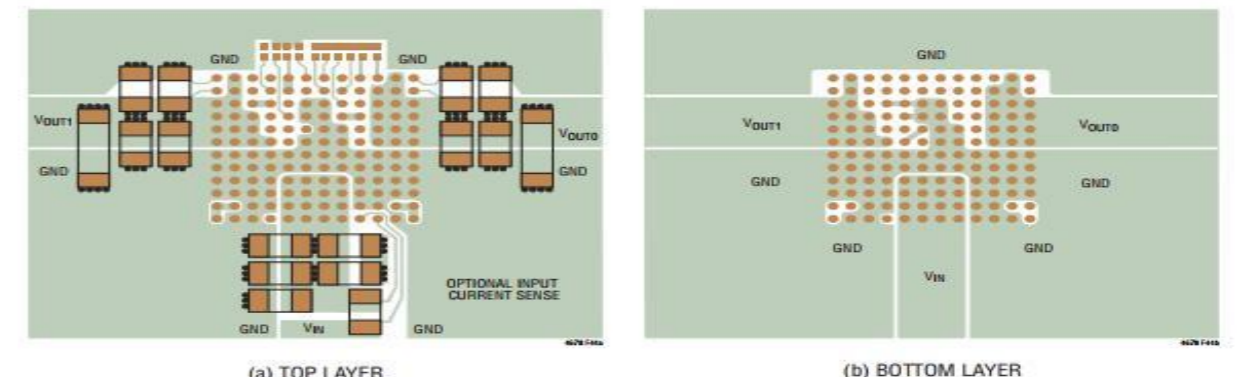

Figure 44. Recommended PCB Layout Package Top View
- Bring out test points on the signal pins for monitoring. Figure 44 gives a good example of the recommended layout.